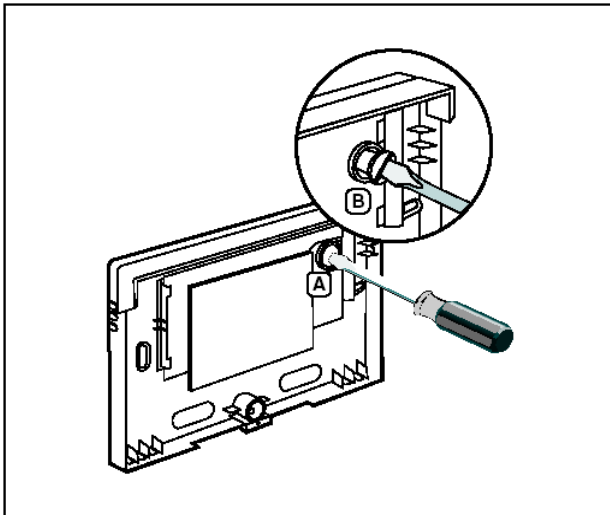

Fig. 6 : Back tamper protection
2.6 Back tamper protection (fig. 6)